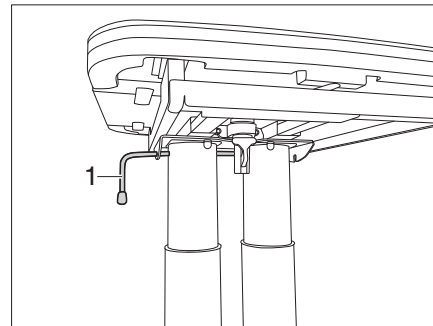

Fig. 106 Lock the table
- Swivel the catch lever (Fig. 106,1) to the left. The lock is open.
- Swivel the catch lever (Fig. 106, 1) to the right. The lift-off table is locked.